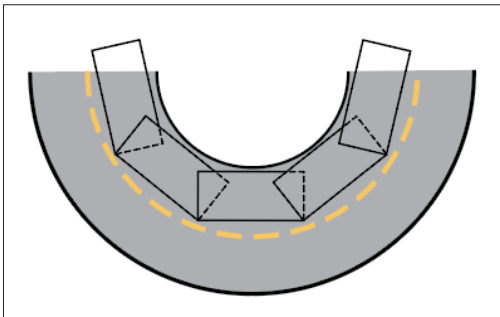

Figure 3: Cutting and overlapping GlasGrid around a curve
- » On curves with tight radii, cut the GlasGrid product in short sections to reduce or eliminate ripples (Figure 3).